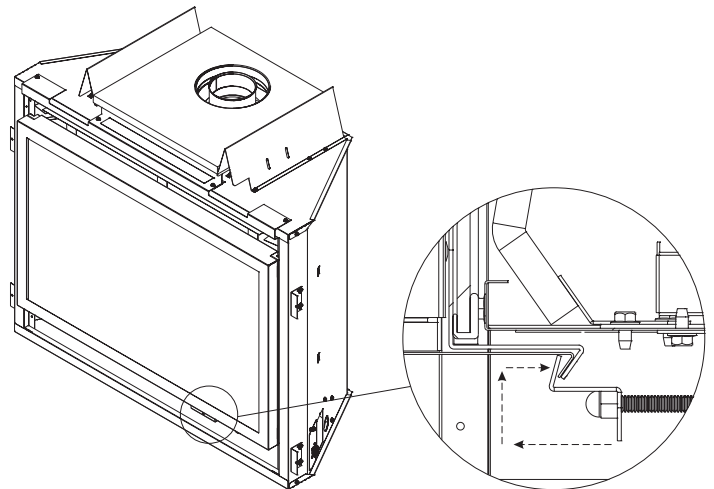

Figure 94
4. Engage the two glass latches over the barrier screen and glass frames as shown in Figure 94.